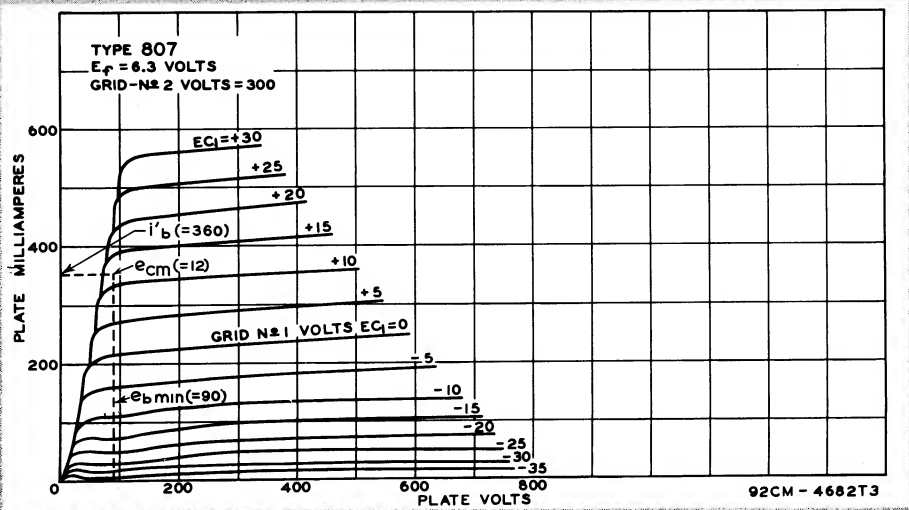
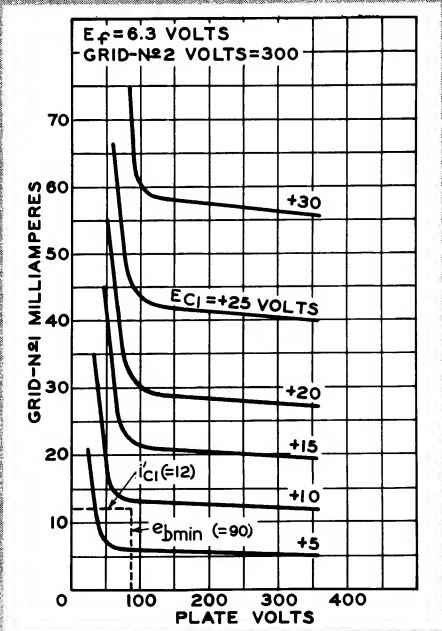

Fig. 1. Average plate characteristics for the type 807 tube (grid-No. 2 voltage = 300).
Fig. 2. Average control-grid characteristics for the type 807 tube (grid-No. 2 voltage = 300).
4. From the 300-v E_{c2} curves, Fig. 1, select $e_{bmin} = 90 \text{ v}$, and read $e_{cm} (= +12 \text{ v})$. From Figures 2 and 3, read $i'_{c1} = 12 \text{ ma}$, and $i'_{c2} = 35 \text{ ma}$, respectively.
10. E_{c1} (from Fig. 1) = -35 v.